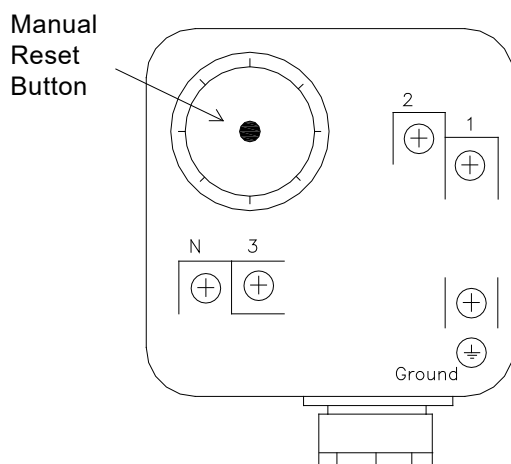

Figure 25: High/Low Gas Pressure Switch
10. If the high or low gas pressure switch tripped, it must be manually reset before the appliance can be restarted. (See Figure 25)